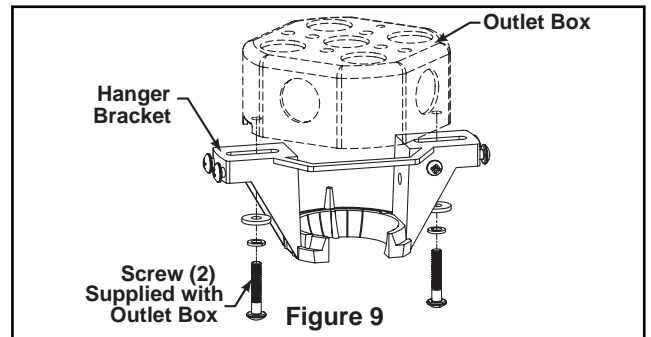

Figure 9
- 8. Push the screw cover trim ring up to conceal the screws, such that the mounting tabs seat into the dimpled grooves in the ceiling canopy midway between the screws. (Figure 9)
- Securely attach the hanger bracket to the outlet box using the outlet box screws and washers supplied with the outlet box. (Figure 9)